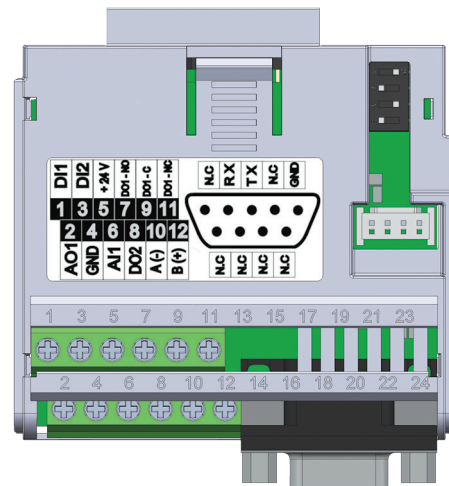

Figure 17.2: Plug-in module CFW500-CRS232
The CFW500-CRS232 plug-in module has Serial (1) interface through RS485 port at terminals 10(A-) and 12(B+), as well as the Serial (2) interface through RS-232 port at standard connector DB9, see Figure 17.2 on page 17-1.